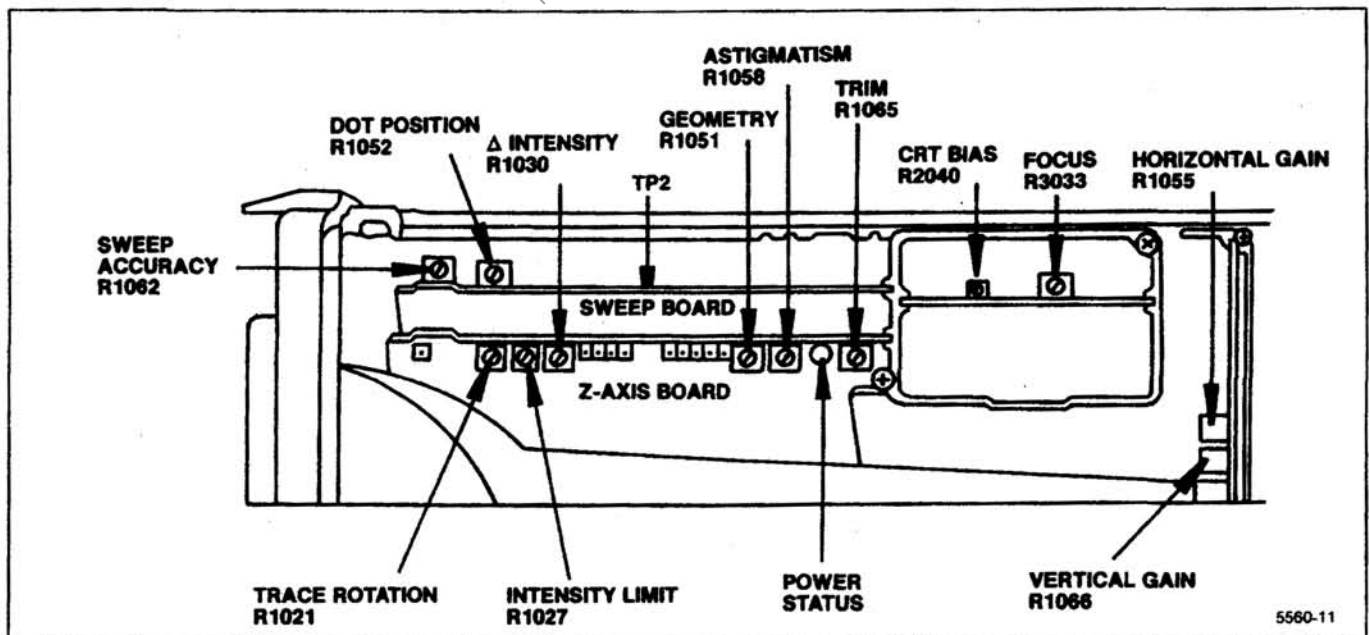
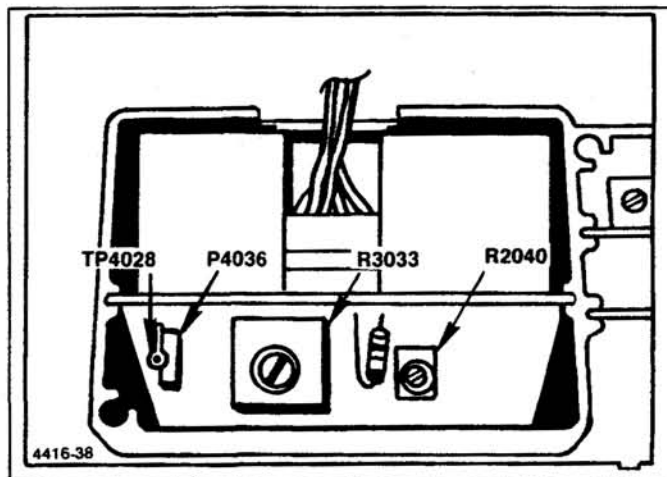

Figure 5-2. Crt display adjustment and test point locations.
Figure 5-3. Adjustment and test point locations on High Voltage module.
b. Remove the cover over the Z-Axis and Sweep boards. Set the Intensity Limit R1027, on the Z-Axis board (Figure 5-2) fully counterclockwise and Crt Bias R2040, on the High Voltage board (Figure 5-3) fully clockwise.
(2) Turn the INTENSITY clockwise until a crt beam dot appears on screen.
(3) Focus the dot by adjusting R3033 on the High Voltage board (Figure 5-3) for the smallest round dot.
(4) Set the INTENSITY control such that the voltage at the collector of Q4058 is 5.5 V higher than the voltage noted in part d, subpart 1.
(5) Use the non-metallic screwdriver to adjust Crt Bias, R2040, counterclockwise until the crt beam is visible, then clockwise until the beam dot just extinguishes, with the screen shaded. (If no dot appears, with the adjustment fully counterclockwise, this will be the bias setting.)
(6) Turn the INTENSITY clockwise until a dot is visible then defocus the dot with the Focus adjustment, R3033. Adjust Astigmatism R1058 (Figure 5-2) for a round dot then refocus with R3033 for the smallest and sharpest dot.
(7) Turn the INTENSITY counterclockwise until the dot just disappears, and again measure the collector voltage at Q4058 or Q4059. Voltage should equal or exceed that set in part d, subpart 4. If the voltage is less, repeat the procedure for setting Crt bias.
(1) Switch POWER off, then remove P4036 (Figure 5-3) on the High Voltage board. Turn INTENSITY fully clockwise, MANUAL SCAN fully counterclockwise, and ensure that the TIME/DIV is in the MNL position. Set the Intensity Limit R1027, on the Z-Axis board, (Figure 5-2) fully clockwise.
(2) Connect the voltmeter between TP4028 (Figure 5-3) and the ground lug on the crt shield.
(3) Switch POWER back on. After the instrument initializes, activate 2 dB/DIV and switch Digital Storage off.
(4) Adjust Intensity Limit R1027 (Figure 5-2) for a voltage reading of 0.9 V at TP4028.
(5) Switch POWER off and re-install the jumper P4036 on the High Voltage board. Turn POWER on and adjust the INTENSITY for normal viewing.
h. Adjust the Trace Rotation R1021 (Figure 5-2) so the trace is aligned with the graticule lines.
i. Activate VIEW A and VIEW B then use the PEAK/AVERAGE cursor, positioned at the top then bottom of the screen, as a reference line to adjust Geometry R1051 (Figure 5-2) for the straightest trace at top and bottom of the screen.
k. Adjust Δ Intensity R1030 (Figure 5-2) so the brightness of the readout characters is slightly higher than the trace. Readout characters should be just visible after the trace has disappeared. This ratio provides the best setting for photograph purposes. Disconnect CAL OUT signal from the RF INPUT.
c. Adjust Vert Gain, R1066 (Figure 5-2) for a full screen display.
e. Set TIME/DIV to MNL. Monitor TP2 on the Sweep board (Figure 5-2) with a voltmeter (Digital Multimeter). Set the MANUAL SCAN control for 0.0 V reading on the voltmeter (TP2). Set the horizontal POSITION control to center the CRT beam (dot).
g. Adjust Horiz Gain, R1055 (Figure 5-2) to position the crt beam to the right graticule edge (10th graticule line).